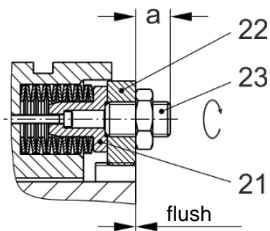
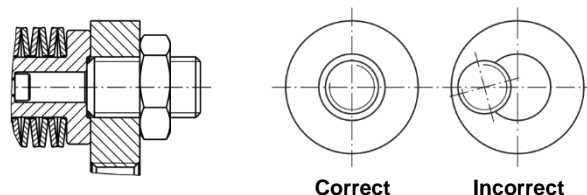

Fig. 15
Fig. 16
3. Tighten the adjusting nut (22) so that it is flush with the hub front face, see Fig. 15..
4. Screw out one set screw (23).
5. Align the adjusting nut (22), until the set screws (23) are in the same position as the cup spring packs with the thrust piece (21), Fig. 16
6. All set screws (23) should be screwed to the same depth according to dimension "a", according to the required torque, see Adjustment Diagram and Fig. 15.
7. Lock the set screws (23) with counter nuts (24) against loosening.